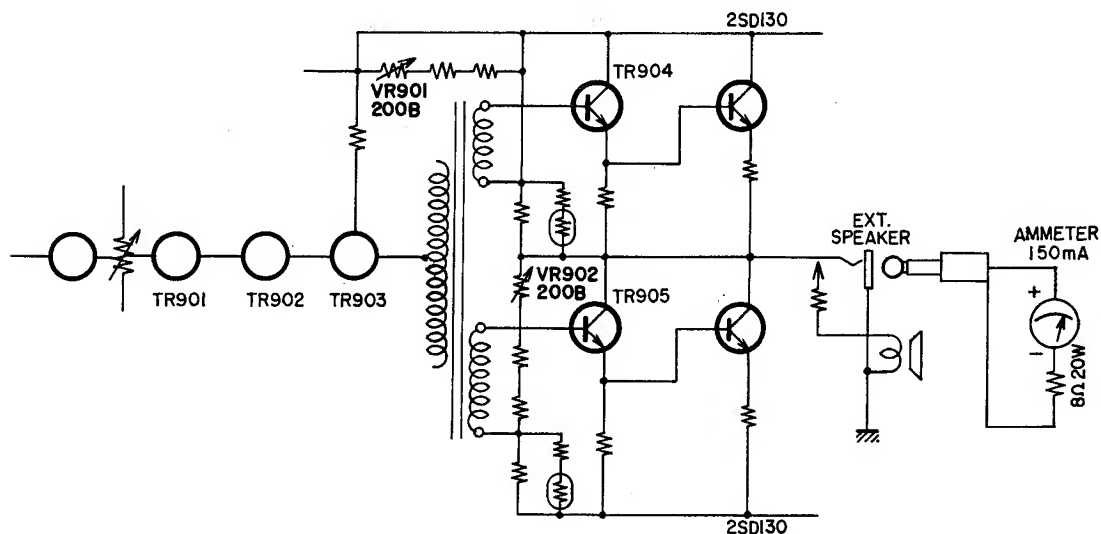

Fig. 1
Connect an audio oscillator to the line output jack, depress "Tape" Button, and record a 16 KHz signal at a -10 dB recording level. Adjust screw (f) (Figure 1) so that the indicated V.T.V.M. value applied to the line output jack is maximum.
- As shown in Fig.1, connect the AM Meter (100 mA–150 mA scale) and a resistor (8Ω 20W) to the External Speaker Jack.